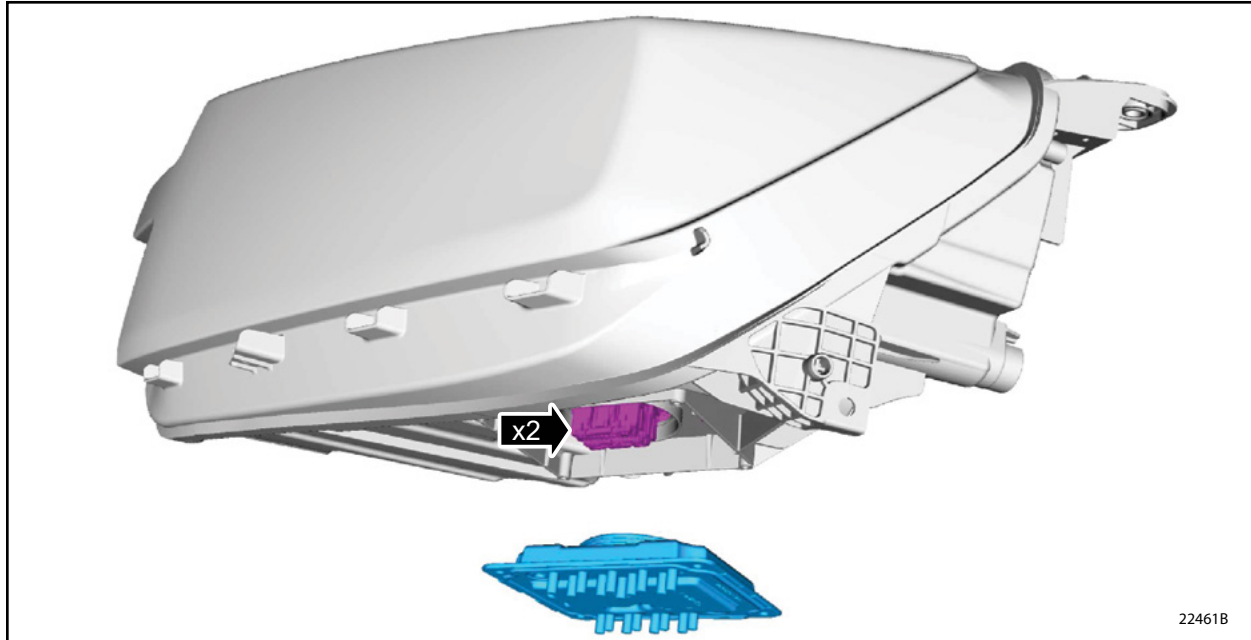

FIGURE 2
3. Disconnect the electrical connectors, and then remove and replace the LED control modules on both LH/RH sides. See Figure 2.